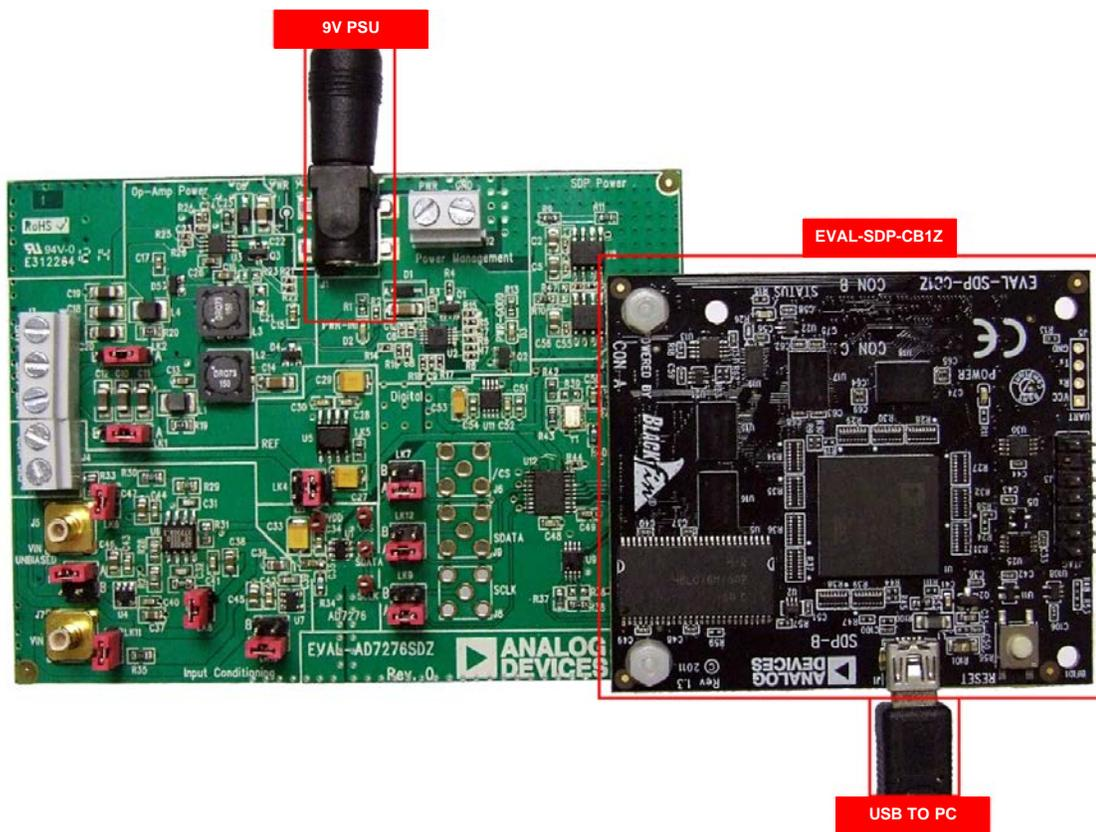

Figure 2. Hardware Configuration—Setting up the EVAL-AD7276SDZ (EVAL-AD7276SDZ on Left and EVAL-SDP-CB1Z on Right)
2. Connect the EVAL-SDP-CB1Z board to the EVAL-AD7276SDZ board as shown in Figure 2. Screw the two boards together using the nylon screw-nut set included in the evaluation board kit to ensure that the boards are connected firmly together.
The AD7276 evaluation board connects to the EVAL-SDP-CB1Z system demonstration board. The EVAL-SDP-CB1Z board is the controller board, which is the communication link between the PC and the main evaluation board. Figure 2 shows a photograph of the connections made between the AD7276 daughter board and the EVAL-SDP-CB1Z board.
1. Connect the EVAL-AD7276SDZ board to Connector A or Connector B of the EVAL-SDP-CB1Z board (see Figure 2).